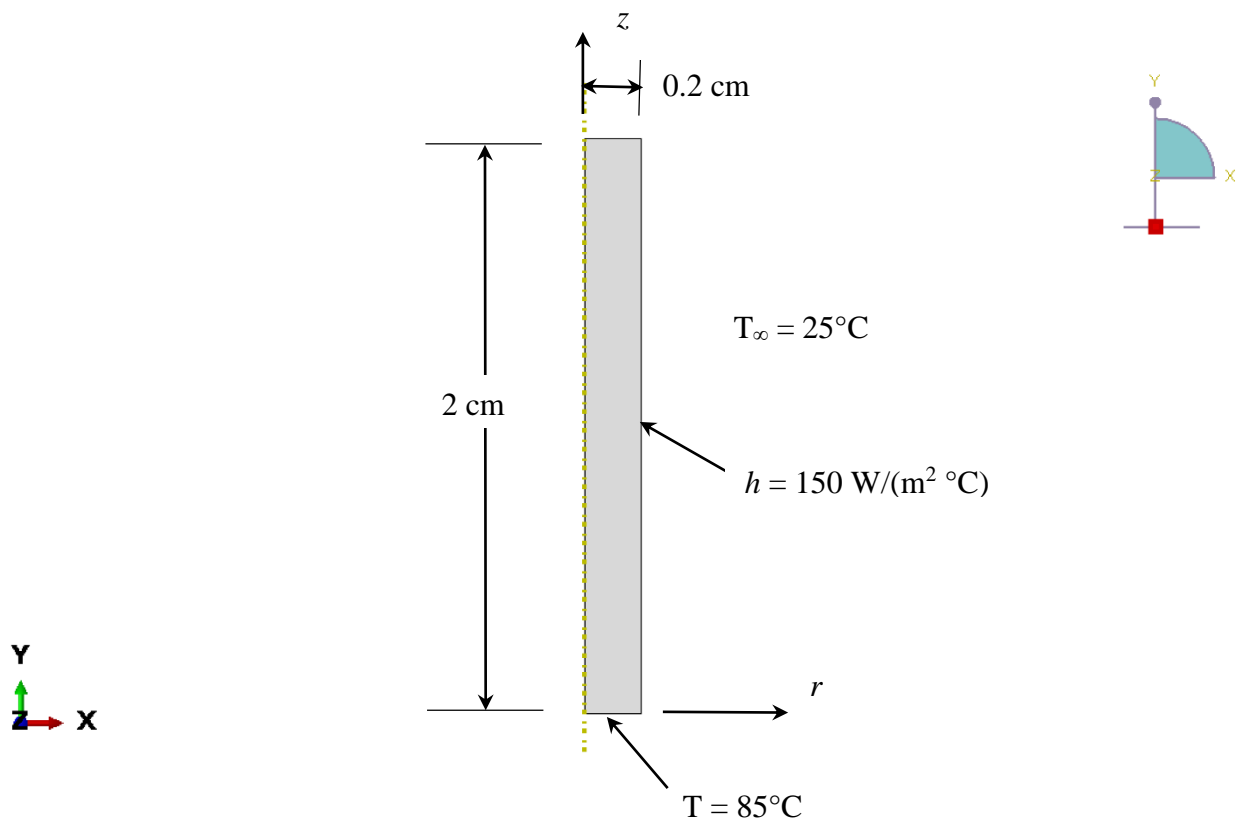

Figure 2. Axisymmetric Model
1. Sketch Module – Create the rectangular shape shown in Figure 2. Be sure to convert dimensions to meters